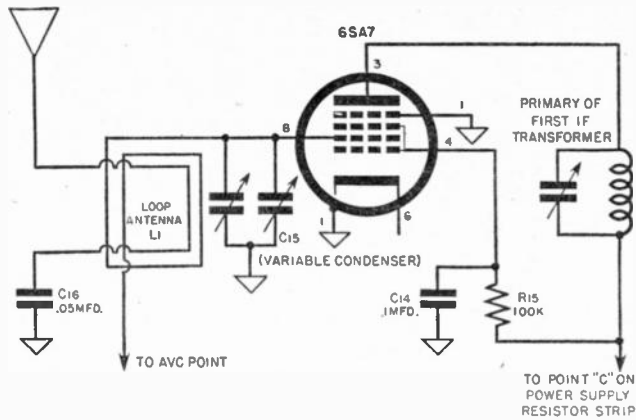

Fig. 2-39. Components of the mixer circuit.
g) Mixer Circuit. This section of the set is illustrated in Figure 2-39. If you have trouble identifying the loop antenna wires, refer back to Figures 2-17A and 2-17B.